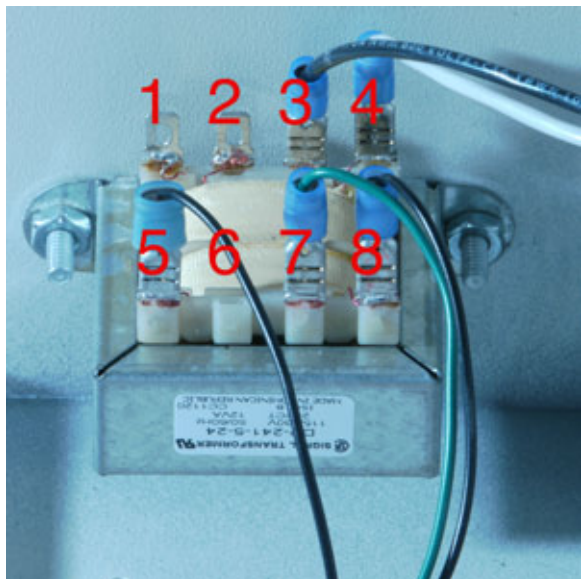

Figure 4
1) If none of these solve the problem then you could have a bad control transformer. To check the transformer, perform an operation test with your digital multimeter. It should read 120 volts across terminals 3 & 4 (figure 4).